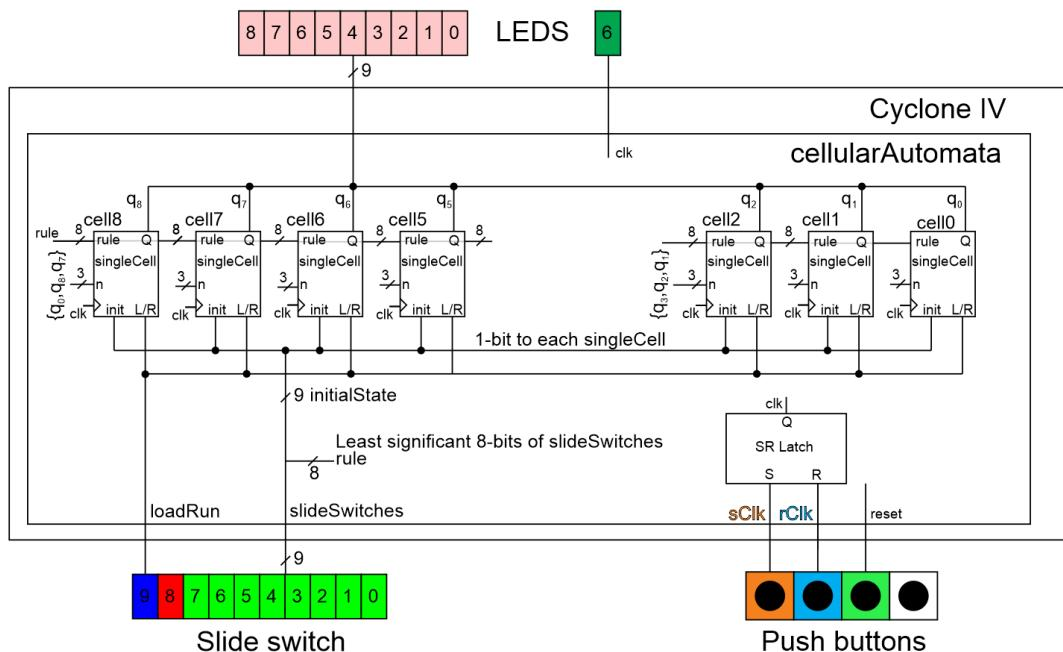
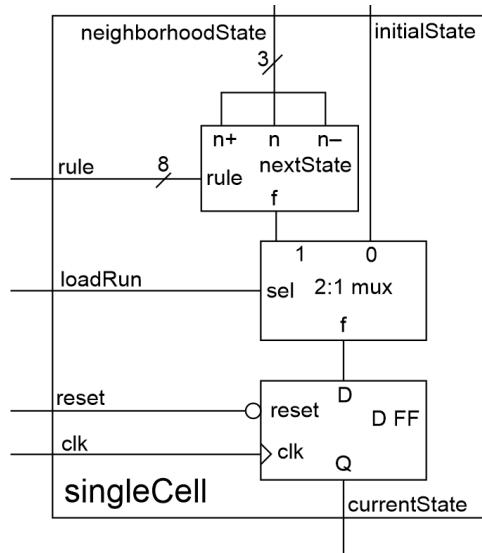

Figure 7.6: The system architecture of the cellularAutomata. Due to tight spacing, only the n inputs to cell8 and cell2 are shown.
Figure 7.7: The architecture and module interface for the singleCell module.
The system architecture shown in Figure 7.6 shows the overall organization of the cellular automata. Slide switches [0-7] are used as initial state when the loadRun slide switch is set to 0. When the loadRun slide switch is set to 1, slide switches [0-7] are used as the evolution rule. The clock is generated by the SR latch whose inputs are sClk and rClk. The state of the cells are displayed on the 9 red LEDs. The processing elements forming the array are called singleCell and discussed in the next section.
- Make cell 8 have cell 0 as its “left” neighbor in Figure 7.6
- Make cell 0 have cell 8 as its “right” neighbor in Figure 7.6
The significant design problem in today's lab comes in this section, building the singleCell module. The module interface for the singleCell module in Figure 7.6 used some shorthand for the single names due to the space constraints. The internal organization and module interface for the singleCell module is shown in Figure 7.7. For example, the output currentState in this figure was called Q in Figure 7.6. You should be able to decipher the rest of the signal abbreviations used in Figure 7.6.
Table 7.2: The input/output relationship for the nextState functionality in Figure 7.7.